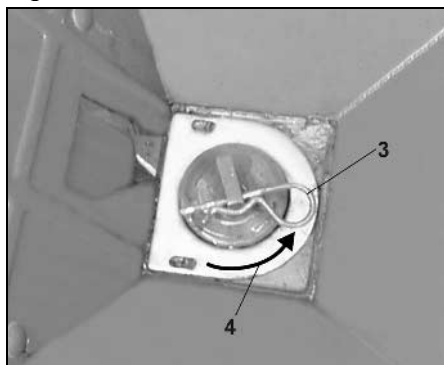

Fig. 52
- **The clip pin (Fig. 52/3) must implicitly be fitted against direction of rotation (Fig. 52/4).** (Illustrated is the right hand implement side seen in driving direction).